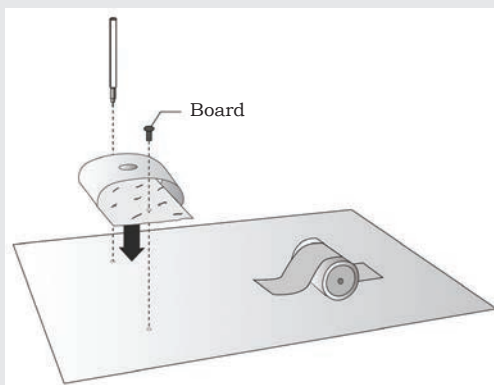

Fig. 2
5. Tape one end of the other connecting wire to the battery's other terminal. Lay the other end into the bulb holder hole as shown in Fig. 2.